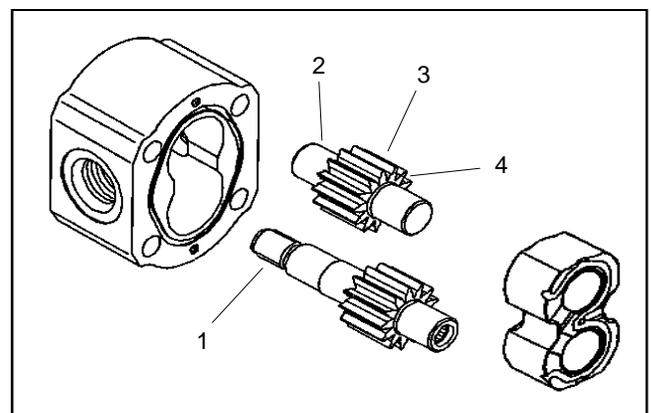

Figure 74
3. Inspect drive gears and idler gears for the following (Fig. 74):